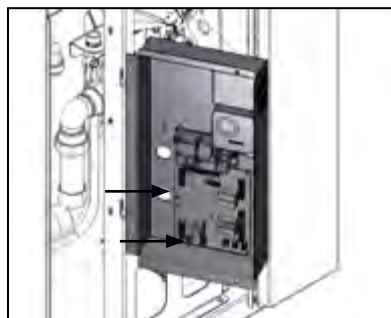

Figure 8-3: PCB housing pivoted
8. Carefully swing the PCB housing out from the side of the boiler casing. Refer to Figure 8-3.